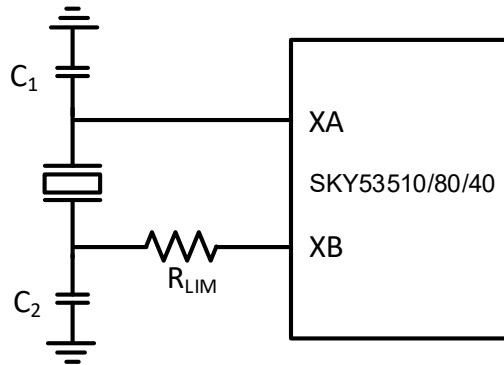

Figure 16. Crystal Interface
I_{RMS} can be measured using a current probe (for example, Tektronix CT-6 or equivalent) placed on the leg of the crystal connected to XB with the oscillation circuit active. As shown in Figure 16, an external resistor, R_{lim} , can be used to limit the crystal drive level, if necessary. If the power dissipated in the selected crystal is higher than the drive level specified for the crystal with R_{lim} shorted, then a larger resistor value is mandatory to avoid overdriving the crystal. However, if the power dissipated in the crystal is less than the drive level with R_{lim} shorted, then a zero value for R_{lim} can be used. As a starting point, a suggested value for R_{lim} is 316 Ω .
2. Max Crystal ESR for 24 MHz = 50 Ω, 54 MHz = 25 Ω; C₁ = 8 pF, C₀ ≤ 2 pF; from Figure 16 on page 17: C_{1(XA)} = 6.8 pF; C_{2(XB)} = 8 pF. These values are based on the PCB layout used for characterization; equations for calculating these values for other layouts are provided in AN1405.**Table 12. DC Common Characteristics**(V_{DD}/V_{DDOx} = 1.8 V ± 5%, 2.5 V ± 5%, or 3.3 V ± 5%, T_A = -40 to 95 °C)